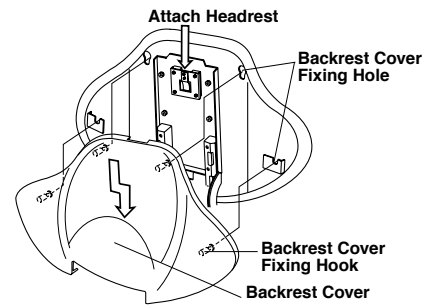

Fig.6-19 Fixing Backrest Cover and Headrest
Insert upper two hooks of backrest cover into the upper fixing holes of the backrest. Keep pressing the backrest against backrest, slide down the backrest cover so that lower two hooks catch the lower fixing holes. (Fig.6-19)
D. Attach the headrest. (Fig.6-19)